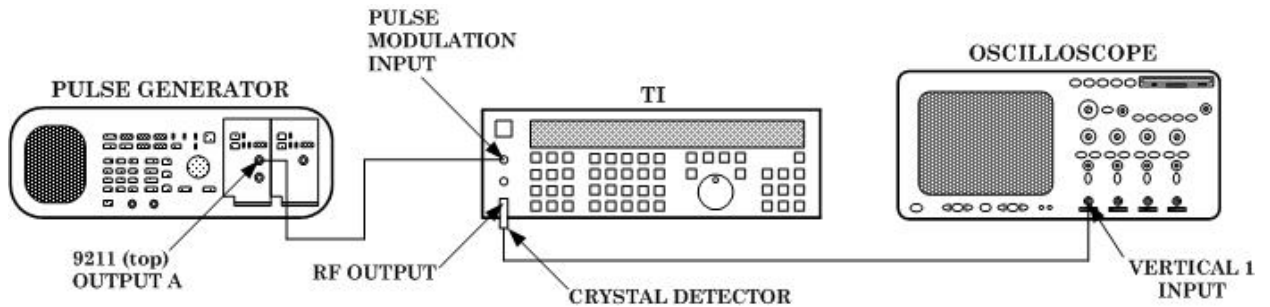

Figure 2. Pulse modulation risetime hookup.
(7) Set TI **FUNCTION-RF ON** to off (red light extinguished).
(8) Connect equipment as shown in figure 2.